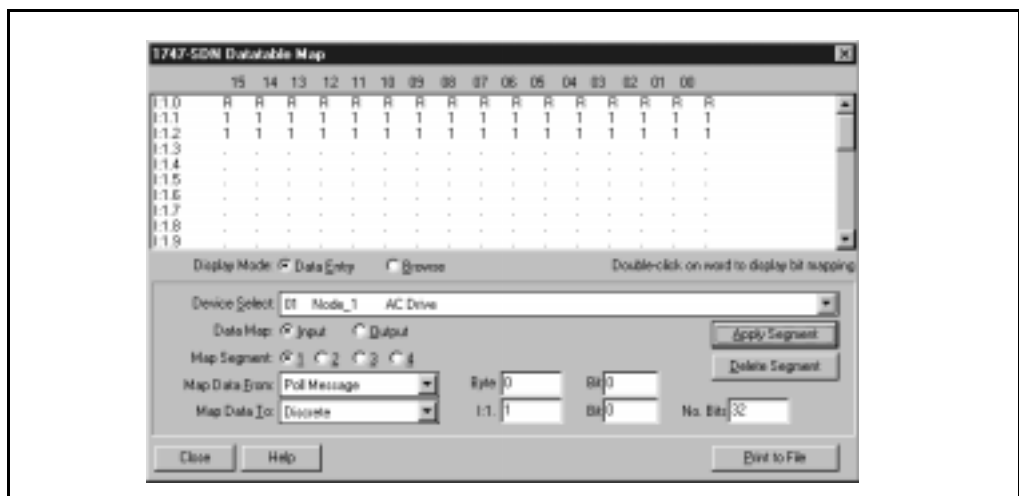

Figure 4.11 – Input Datatable Map
Step 1. In the Datable Map dialog box (see figure 4.11), select **Output** to map the Output data. A dot appears in the circle.